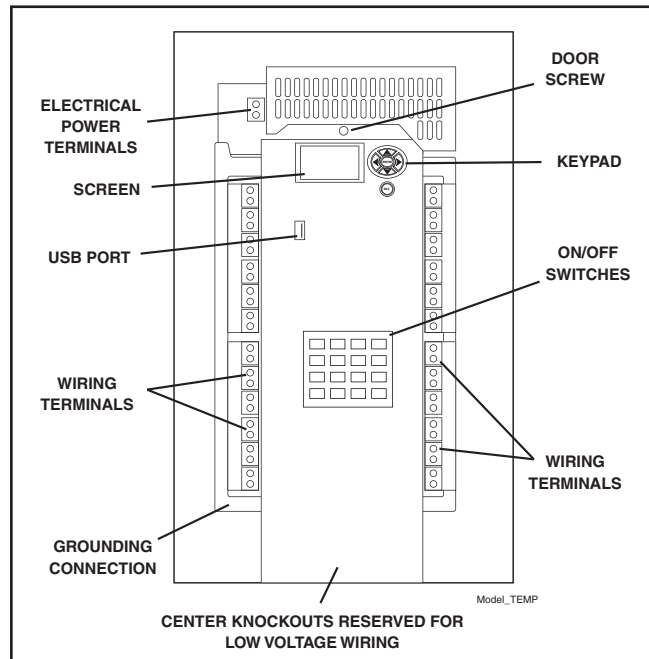

Figure 1: ET90000-Series Unit
**4, 8, 12, 16 circuit system:** Connect the input power wires to the terminals at the top left corner of the device. Connect the ground wire to the green hex head screw at the lower left of the device (see Figure 1).